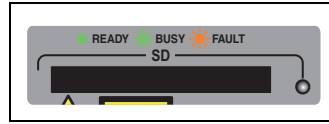

Figure 21. SD Slot LED
All x610 Series Switches have one Secure Digital (SD) LED, shown in Figure 21 and defined in Table 11.